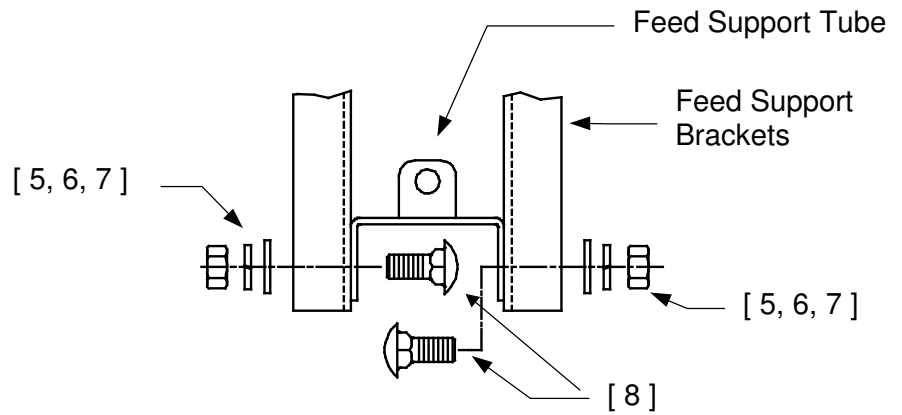

**FIGURE 3**
- A). Before attaching the feed support, sight the bottom of the reflector with the reflector support tube, to be sure the reflector is centered. If not, move the reflector left or right along the crossarms. See Figure 3.
- B). Loosely mount the bottom of the feed support to the reflector support tube with (2) of ( items 8, 5, 6, 7 ). See Detail B.